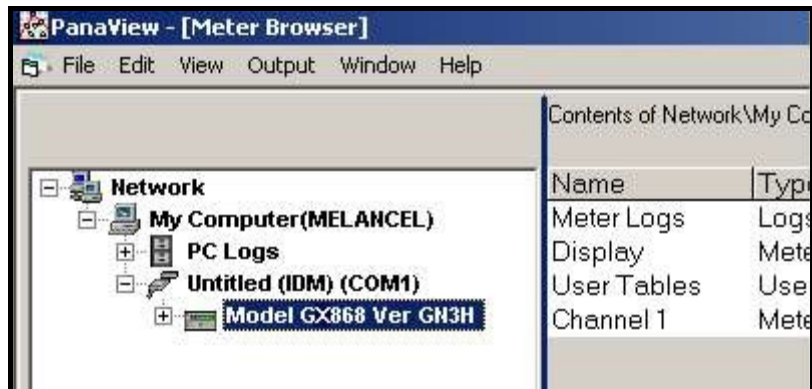

Figure C-6: The Updated Network Tree
If the initialization is successful, the Meter Browser shows a listing similar to Figure C-6 below.
1. Highlight the meter (as shown in Figure C-6 on page C-5).